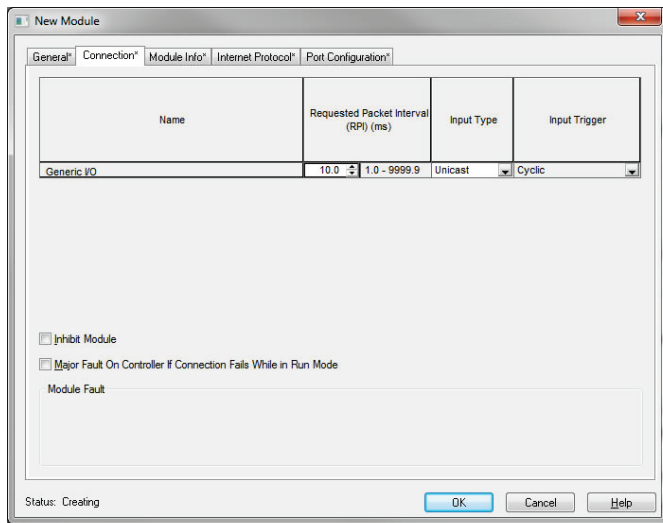

Figure 37: AOP New Module Properties Connection Tab
13) Click on the “Connection” tab. Refer to Figure 37.